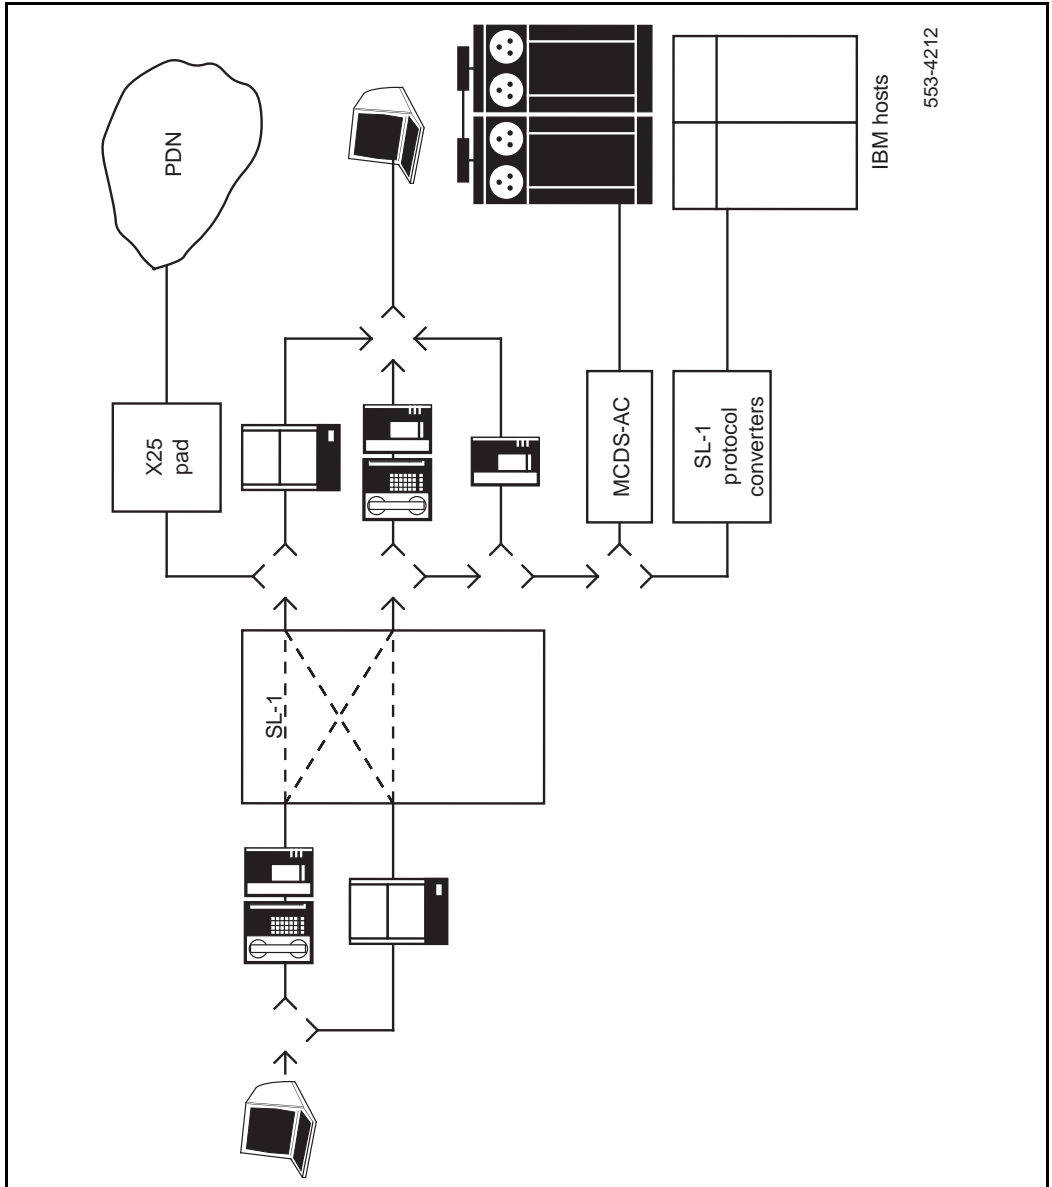

Figure 2
- Terminal to Terminal Computer Port configurations support applications such as distributed data processing, time-shared computing, and inquiry/response (Figure 2).